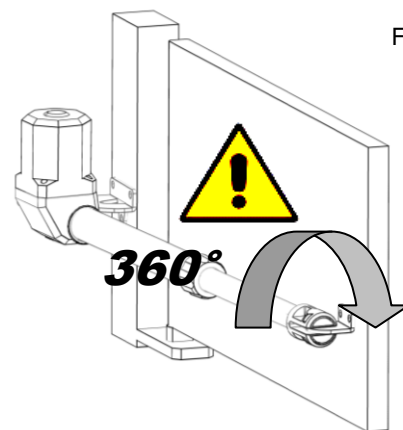

FIG 4
**7 - Screw D shaft back on 1 complete turn of 360° (fig 4)**